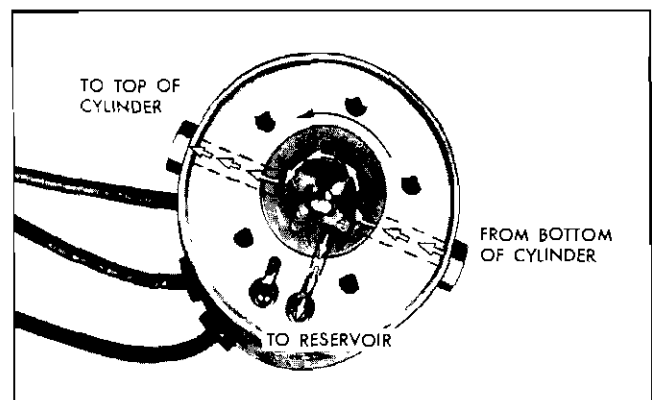

Fig. 7-56 Pump Operation—Lower Top
2. **Lowering the Top.** When the green motor lead is energized the motor drive shaft turns the rotors counterclockwise as indicated by the large arrow in Fig. 7-56. The action of the pump rotors forces the fluid under pressure to the top of each cylinder. This action causes the fluid below the piston in each cylinder to be forced into the pump which recirculates the fluid to the top of each cylinder. The surplus hydraulic fluid due to piston rod displacement flows into the reservoir.